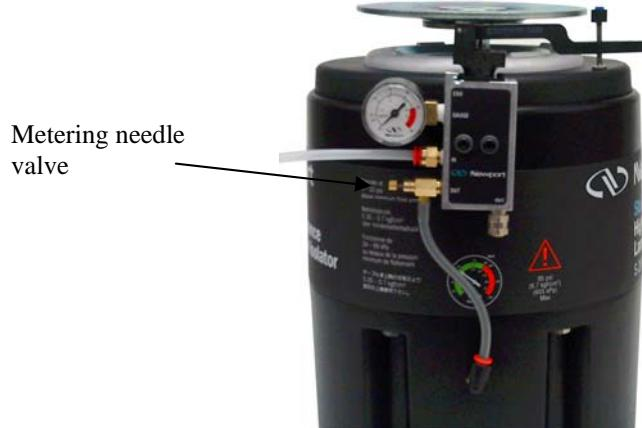

Figure 9 — Detail of Valve Connections, Single Isolator
- b. Connect a length of grey tubing (supplied with the valves for use on the valve barb fitting) between the hose barb on the valve and the inlet connector on the isolator (Figure 9). If more than one isolator is supplied by a valve, use “Tee” connectors as required (Figure 10). Connect the grey tube from the valve to the “Tee” and use translucent tubing between the “Tee” and each isolator.
2. Close the metering needle valve (Figure 9) on each valve and then open it $\frac{1}{2}$ turn for each isolator that is connected to it. For example, if the valve controls two isolators, the needle valve is opened 1 full turn. [Please note: If you have a minimum load on your optical table top, open the metering valve about $\frac{1}{8} - \frac{1}{4}$ of a turn.]